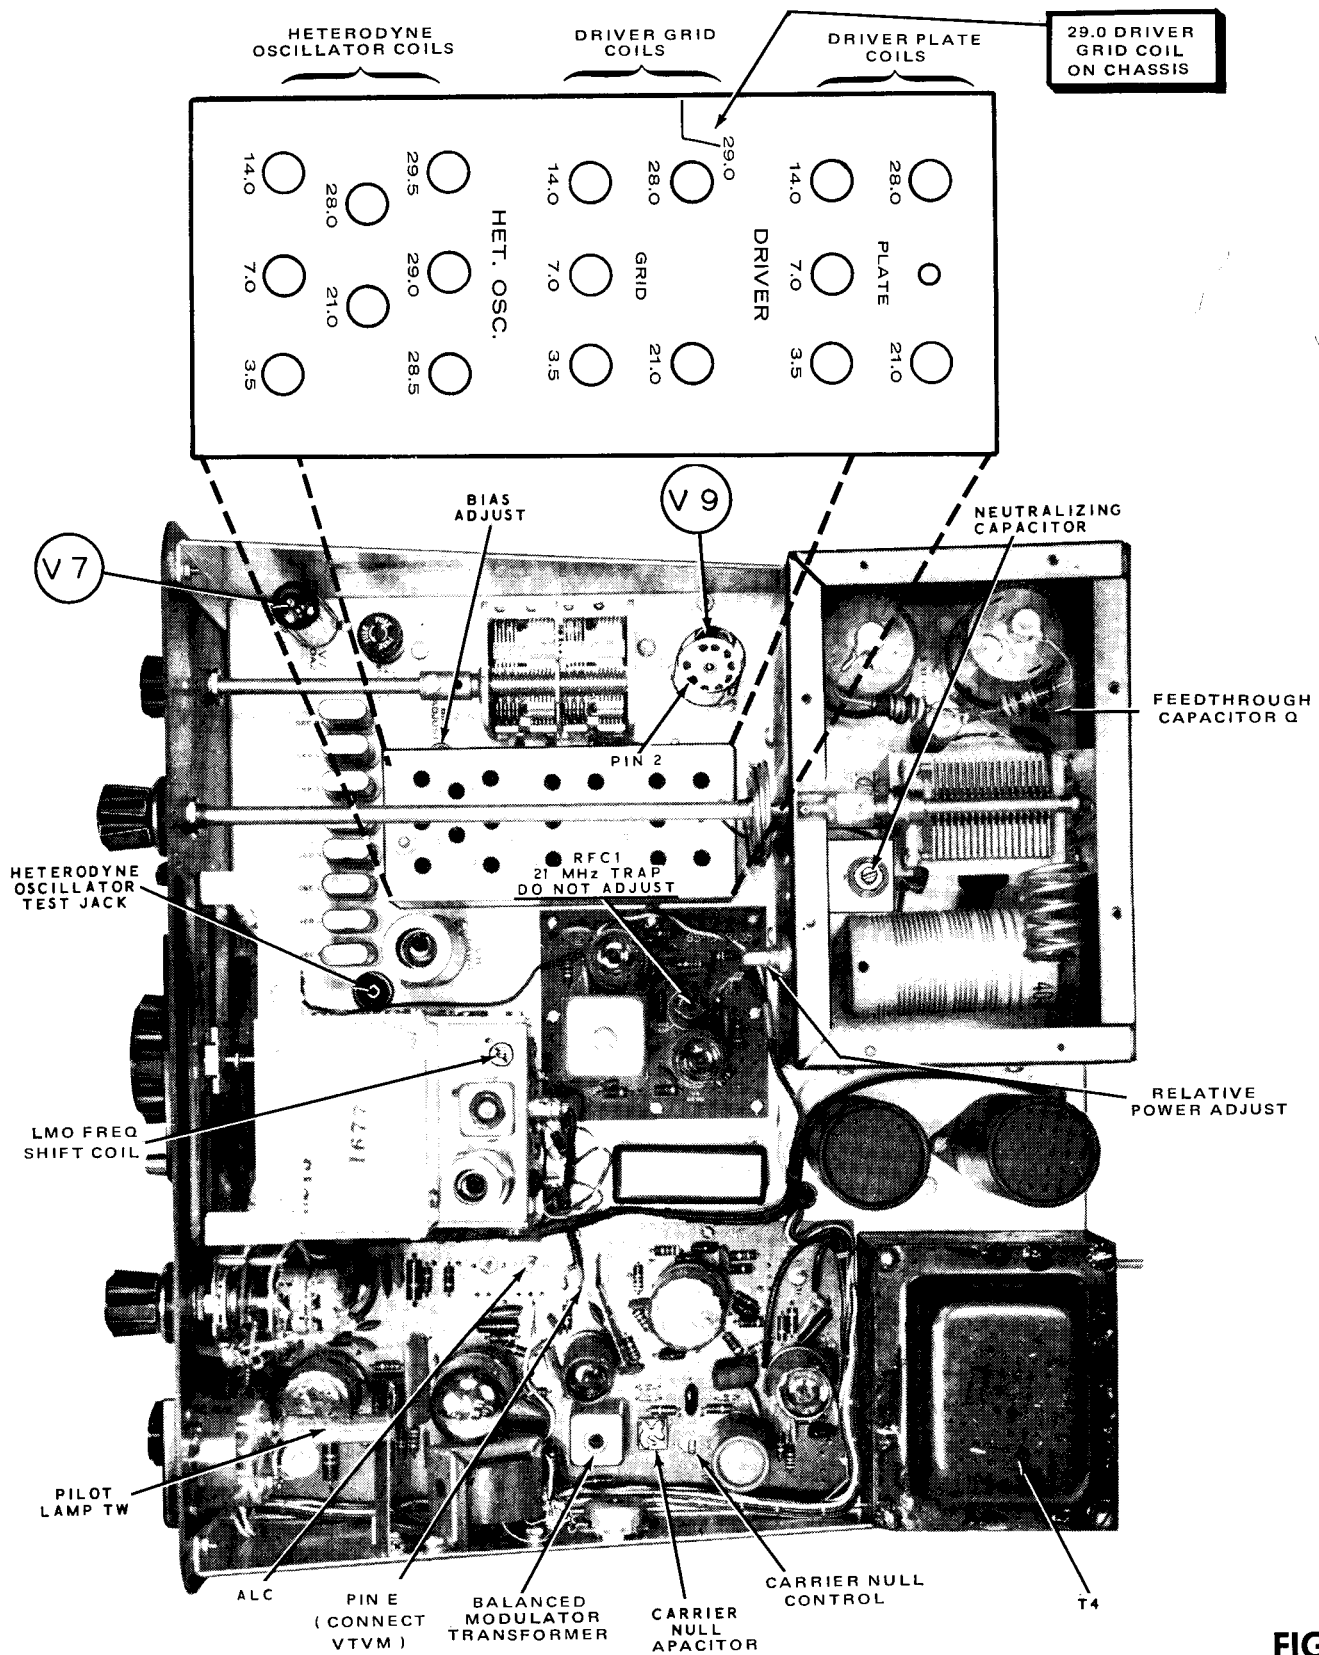

FIGURE 2-2
- () Adjust the variable capacitor on terminal board #1 (see Figure 2-2 fold-out from Page 93) for minimum on the VTVM.
Refer to Figure 2-2 (fold-out from Page 93) for test point and adjustment locations.
- () Preset the variable capacitor on terminal board #1 as it is shown in Figure 2-2, if it was not aligned previously using the SB-303 Receiver.